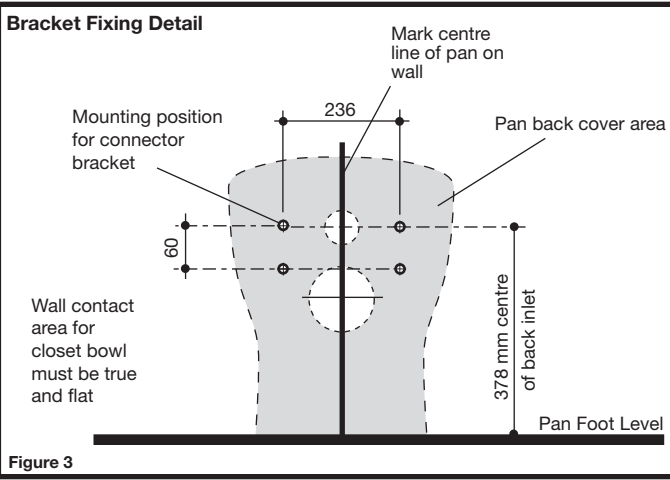

Figure 3
- 3- Mark centre line on finished wall. This is to be used as a guide when connecting the pan/closet, see **Fig.3**. Drill holes in wall and fit suitable wall fixings.